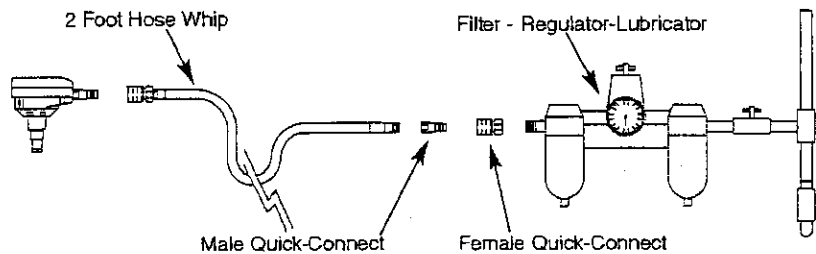

Figure 1 - Air Supply Line
Refer to Figure 1.
- A filter-regulator-lubricator system is required and should be located as close to tool as possible (see Figure 1). A distance of less than 15 feet is recommended.